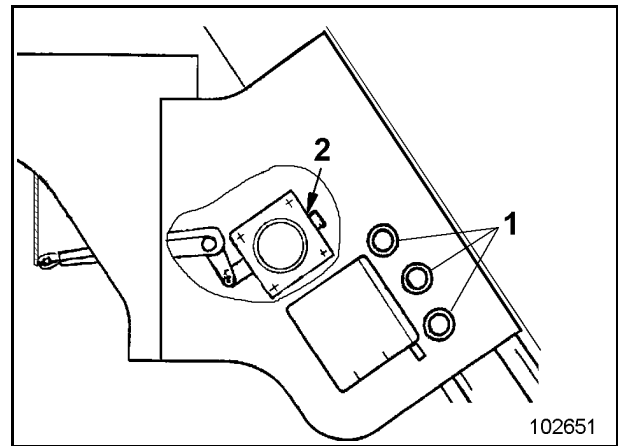

Fig. 3-145:
Lubricate the bearings (1, Fig. 3-145:) of the guide pulleys at regular intervals and apply a few drops of oil to the locking bolt (2).